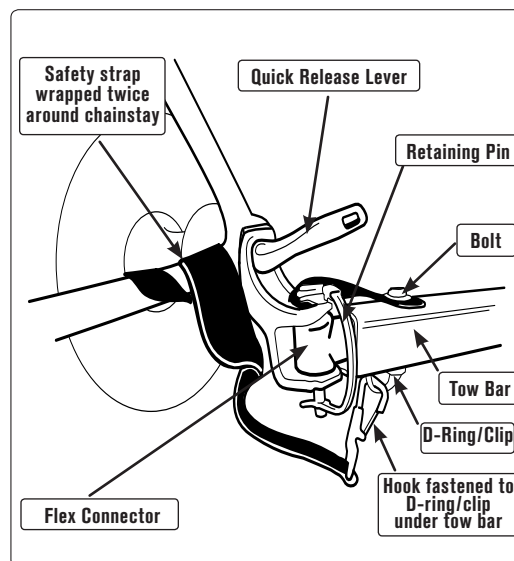

FIGURE 1: Forged Hitch Shown
2. Remove existing bolt, safety strap, lock nut and D-ring/clip from flex connector which is located at the end of tow bar. **FIGURE 1**